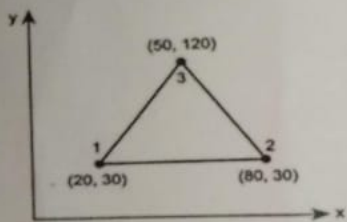

Figure.3
07. For the plane stress element shown in figure.3, the nodal displacements are $u_1=2.0$ mm, $u_2=0.5$ mm, $u_3=3.0$ mm, $v_1=1.0$ mm, $v_2=0.0$ mm, $v_3=1.0$ mm. Determine the element stresses σ_x , σ_y and τ_{xy} . Also, determine the principal stresses (σ_1 , σ_2 and τ_{max}) and principal plane (θ_p). Assume $E=210$ GPa, $\nu=0.25$ and $t=10$ mm. All co-ordinates are in millimetre. [20]